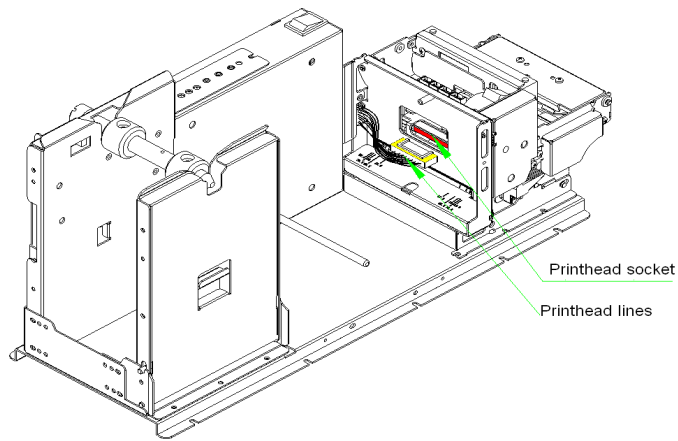
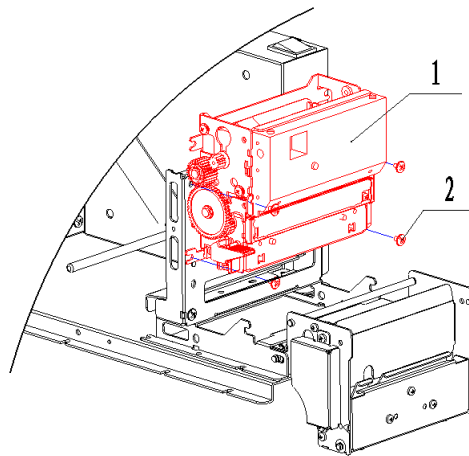

Fig. 5.2-4 Cleaning paper end sensor
Fig. 5.2-5 Clean paper end sensor
6. Screw down four M3-4 screws shown as in Fig.5.2-4 with a cross screw driver, then lift up the print module and take it away shown as in Fig.5.2-5;